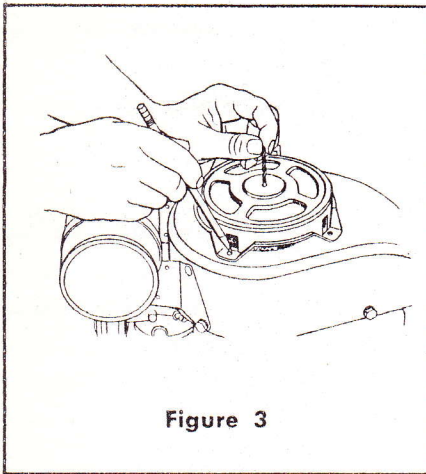

Figure 3
A. Align the starter by use of a pin or drill through the centering hole in the starter and to the "center" of the crankshaft. (If starter has centering hole, Fig. 3).